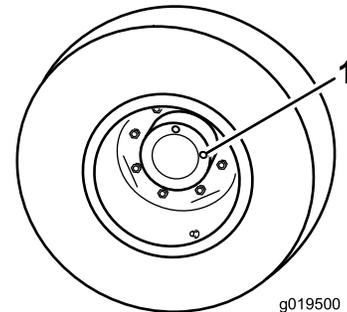

Figure 81
1. With machine on level surface, position the wheel so that 1 check plug is at the 12 o'clock position and the other is at 3 o'clock position (Figure 81).
1. Check/drain plug (2)
2. Remove the plug at the 3 o'clock position (Figure 81).